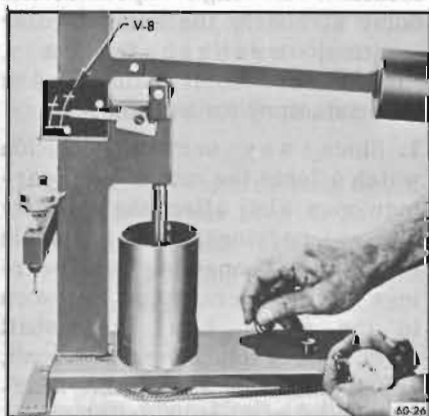

Figure 60-121—Checking Lifter Leakdown Rate
6. Raise weight arm to allow lifter plunger to come up to its retainer, then lower arm to rest on the ram roller. As pointer starts moving upward, start rotating fluid cup by turning handle one revolution every two seconds. Figure 60-121.